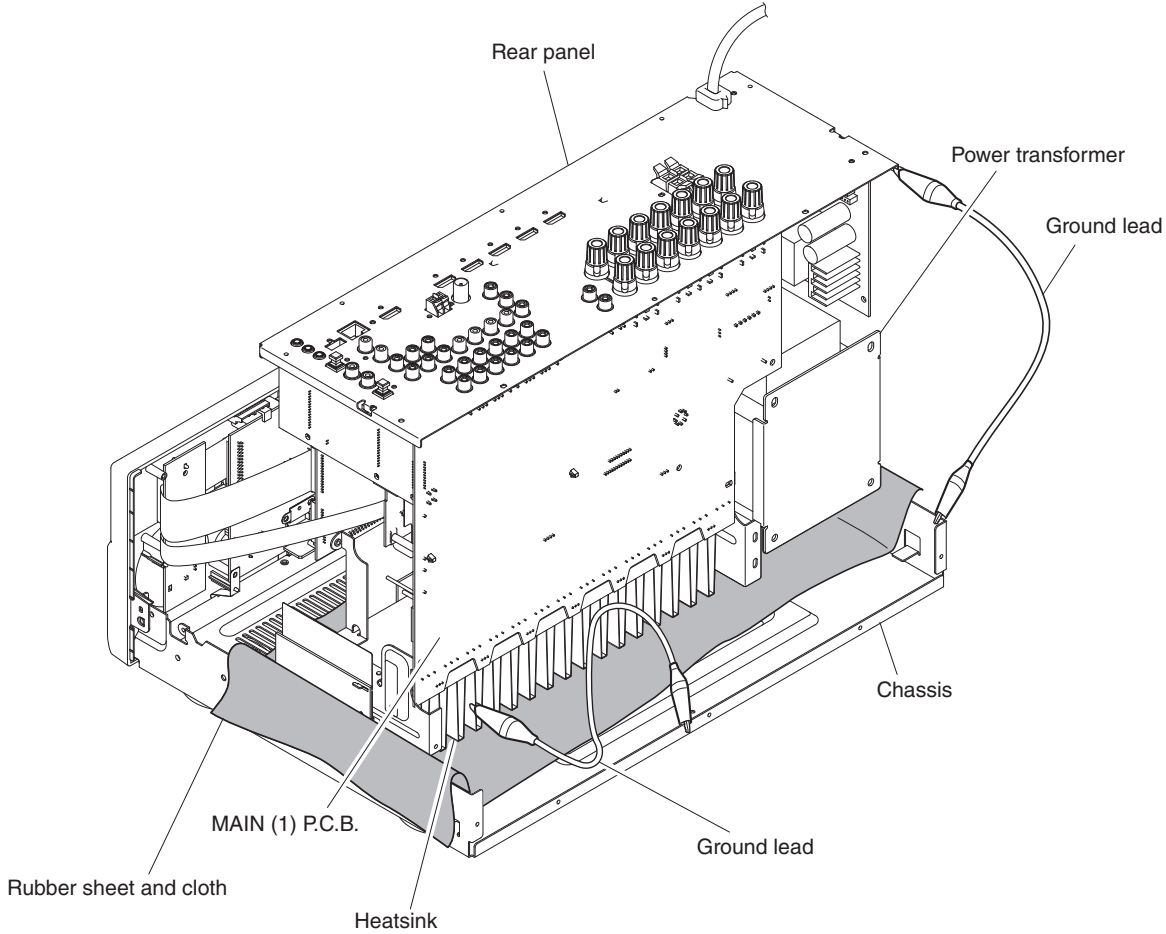

Fig. 4
- Place the P.C.B.s (with rear panel) upright. (Fig. 4)
- Connect the heatsink and rear panel to the chassis with a ground lead or the like. (Fig. 4)